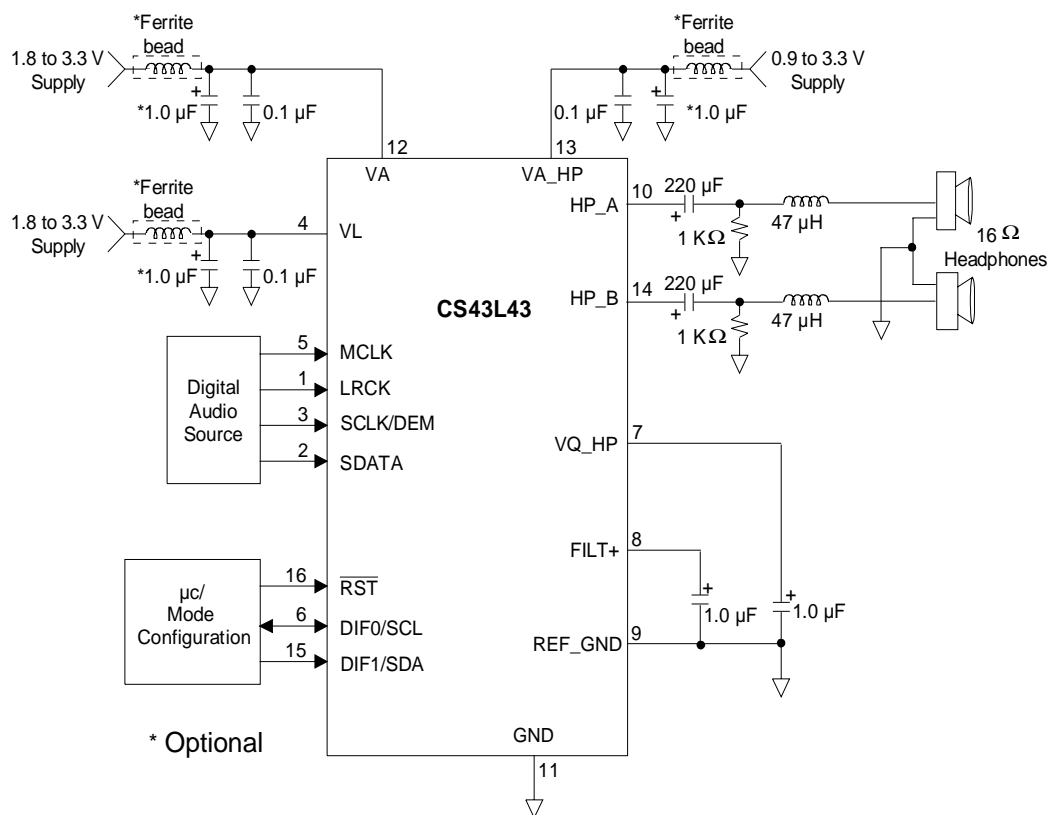

Figure 5. Typical Connection Diagram
8. Valid with the recommended capacitor values on FILT+ and VQ\_HP as shown in Figure 5. Increasing the capacitance will also increase the PSRR. NOTE: Care should be taken when selecting capacitor type, as any leakage current in excess of 1.0 μA will cause degradation in analog performance.